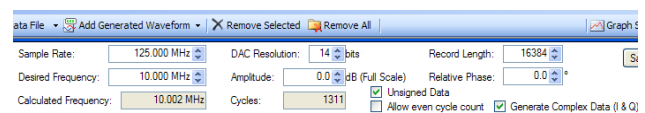

Figure 5. Single Tone Generation
5. In the DPG2 window (see Figure 5), select **Add Generated Waveform**, and then select **Single Tone**. A single tone panel is added to the vector list. Enter a clock frequency of 125 MHz for **Data Clock Frequency**.
See Figure 5 for the appropriate settings.